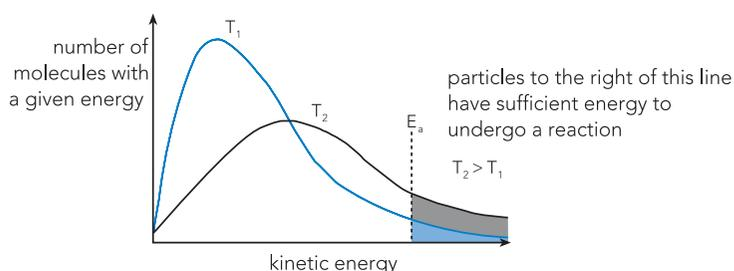

Figure 1.6 Kinetic energy distribution of particles at different temperatures.
- The force, and therefore likely success, of each collision increases. More importantly, the proportion of particles with sufficient activation energy increases with temperature and hence the reaction rate increases markedly. (See kinetic energy distribution graph – Fig. 1.6).
An increase in temperature of only 10°C can markedly increase reaction rate. Use the graph in Figure 1.6 to explain the **main** reason for this.